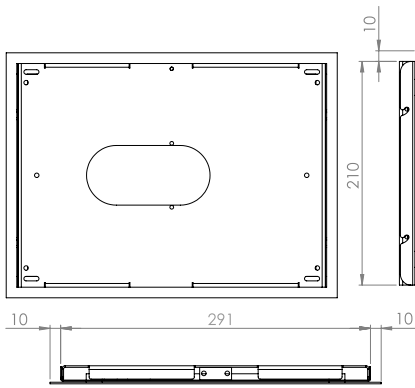

Fig. 14
- Abb. 14: Dimensions recess for TWE for Samsung Galaxy Tab 3 und Tab 4 (B x H x T): 291 x 210 x 16,9 mm